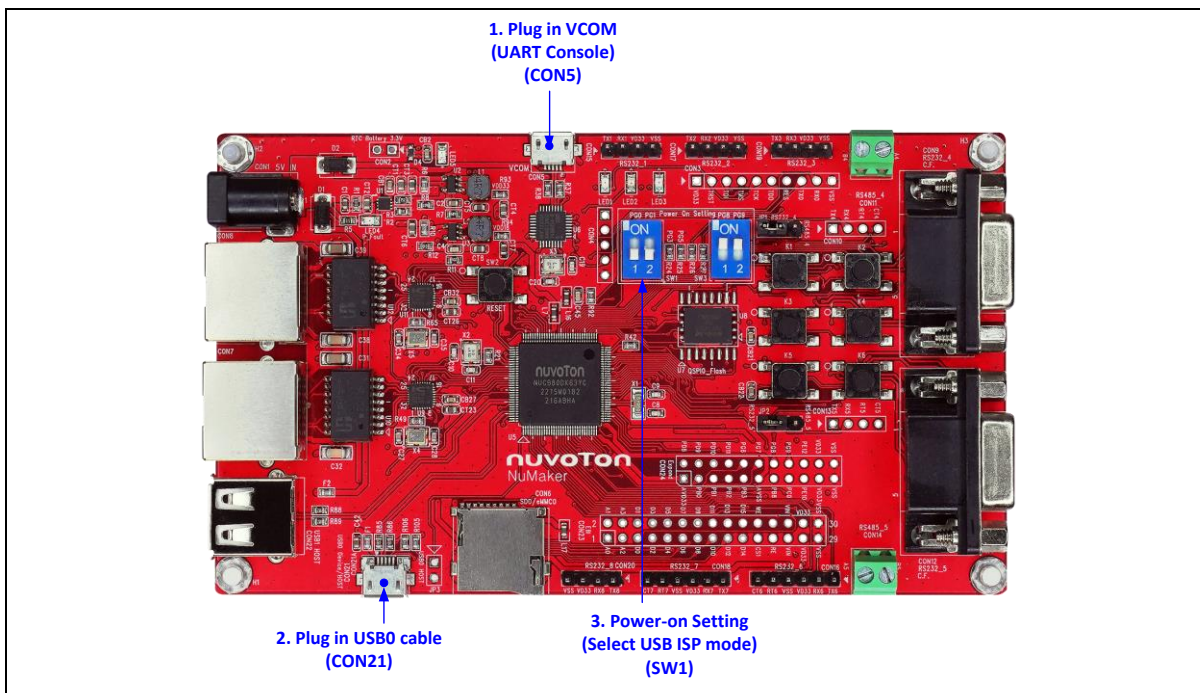

Figure 4-5 Hardware Setting
2. Set SW1(Power On Setting) to Boot from USB (shown in Table 4-1 and Figure 4-5). Connect USB0 to PC and connect UART console to PC.
- Set SW1(Power On Setting) to Boot from QSPI 0 Flash(refer to Table 4-1 and Figure 4-5).